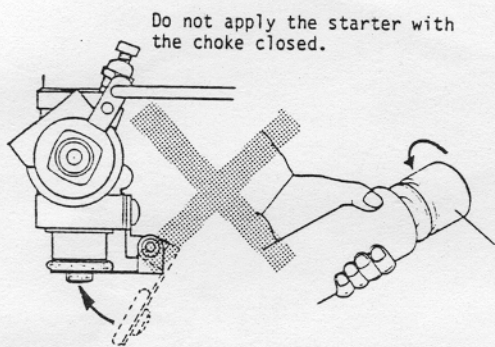

Fig. 23
- . Warning! Never close the choke-valve when applying the starter. To do so will cause an excess quantity of fuel to be drawn into the cylinders and result in hydraulic lock and the risk of serious damage (Fig. 23).